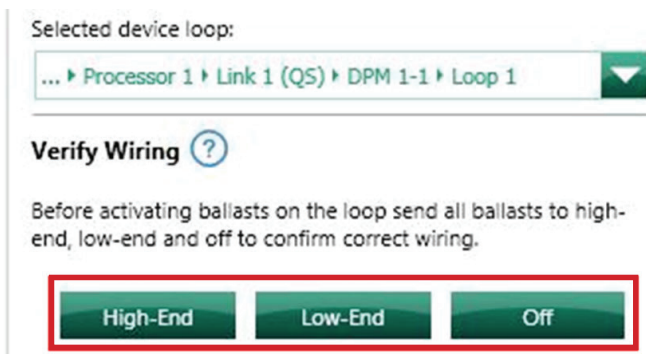

Figure 8
2. After selecting the DALI® loop to be activated, you can verify the wiring of all drivers on the loop by setting all fixtures to High-End, Low-End, and Off via the buttons in the software. See Figure 8 below.